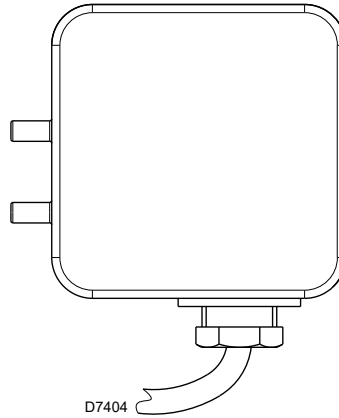

Fig. 24
- Adjust the air pressure switch (Fig. 24) to the start of the scale.
Adjust the air pressure switch after performing all other burner adjustments with the air pressure switch (Fig. 24) set to the start of the scale.